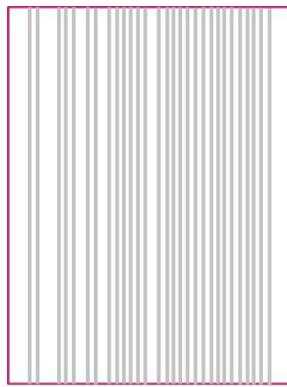

Figure 14 Photo mask mura
3.1.4. Photo Mask and Design Mura: (figure 14):